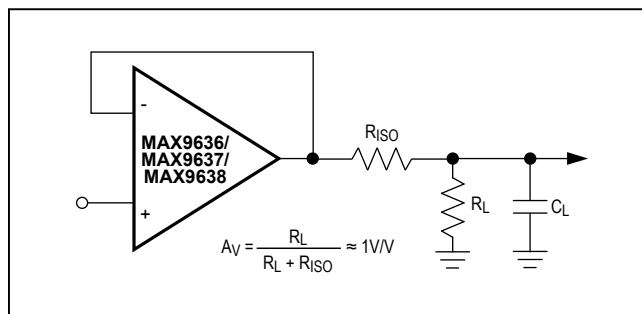
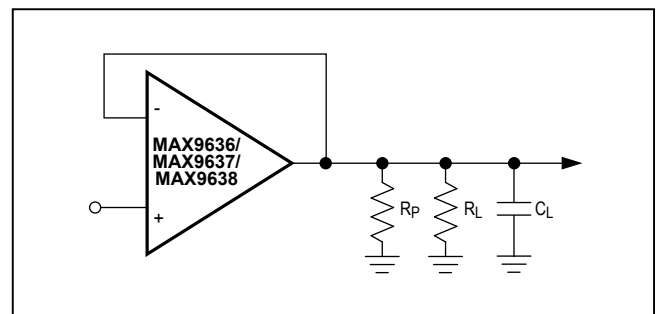

Figure 1. Using a Series Resistor to Isolate the Capacitive Load from the Op Amp
Figure 2. Using a Parallel Resistor to Degenerate the Effect of the Capacitive Load and Increase Stability
The ICs have a high tolerance for capacitive loads. In unity-gain configuration, the op amps can typically drive up to 300pF pure capacitive load. Increasing the gain enhances the amplifier's ability to drive greater capacitive loads. In unity-gain configurations, capacitive load drive can be improved by inserting a small (5Ω to 30Ω) isolation resistor, R_{ISO} , in series with the output, as shown in Figure 1. This significantly reduces ringing while maintaining DC performance for purely capacitive loads. However, if the load also has a resistive component then a voltage-divider is created, introducing a direct current (DC) error at the output. The error introduced is proportional to the ratio R_{ISO}/R_L , which is usually negligible in most cases. Applications that cannot tolerate this slight DC error can use an alternative approach of providing stability by placing a suitable resistance in parallel with the capacitive load as shown in Figure 2 (see the *Typical Operating Characteristics* section for graphs of the stable operating region for various capacitive loads vs. resistive loads). While this approach of adding a resistor parallel to the load does not introduce DC error, it nevertheless reduces the output swing proportionally.